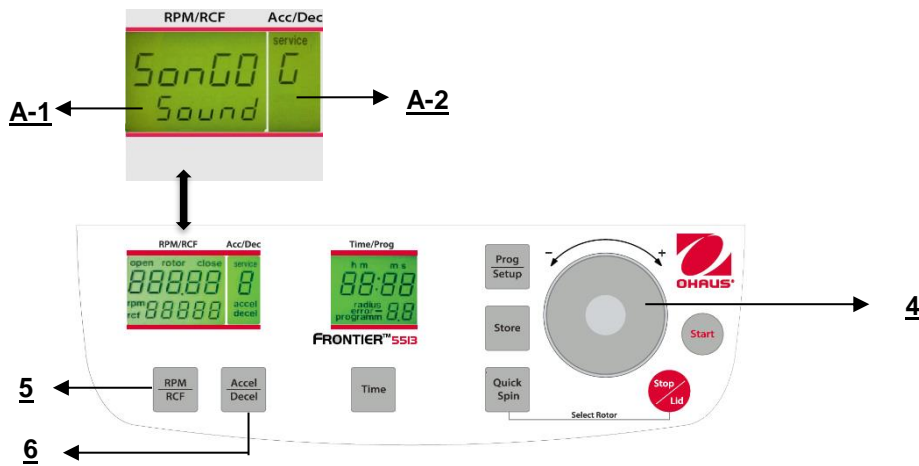

Figure. 32
Proceed as described under point 4.1.2 to enter this program mode and then press the key "Accel/Decel" (6). In the display "Acc/Dec" (A-2) the word "Service" flashes. Now select the letter "G" with the adjusting dial (4). As a result, in the display "RPM/RCF" (A-1), the word "SonGo/Sound" appears. After pressing the key "RPM/RCF" (5), you can select a song with the adjusting dial (4). (See figure 32).